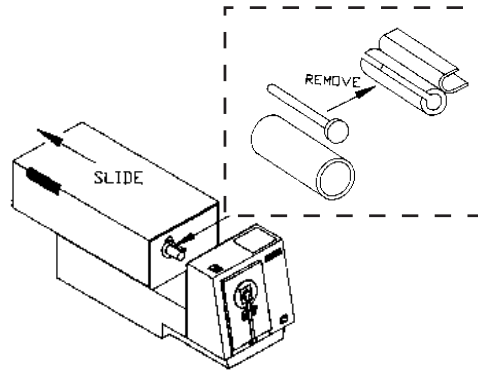

Figure 2-1. CE-7000A Zoom Selector Knob
1. Slide the bench cover door to the rear until it stops (See Figure 2-1).